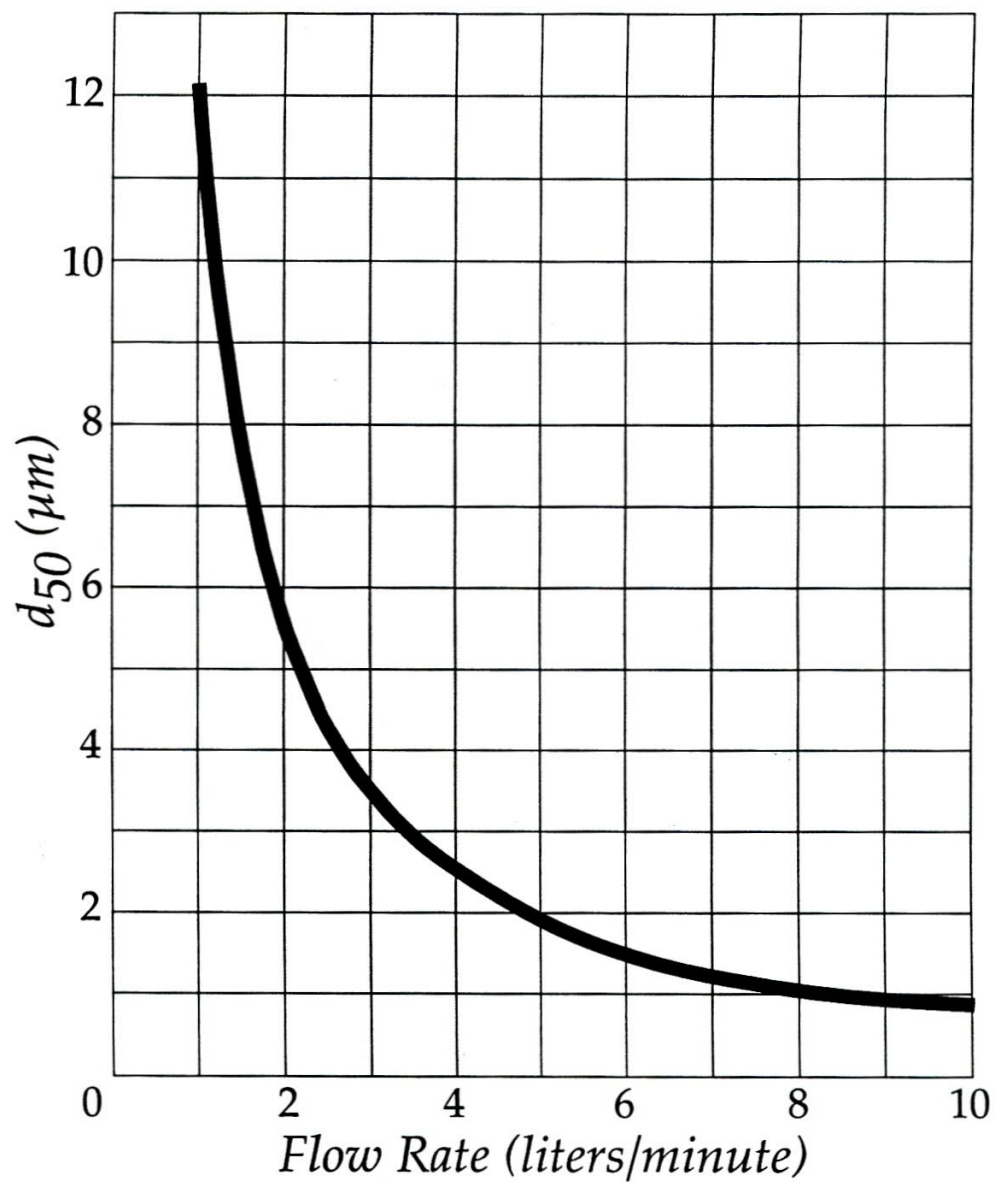

Figure 7. GK 2.05 Cyclone Cut Point (d_{50}) as a Function of Flow Rate
The *p*DR-1200 can be used to monitor a specific particle size fraction below a selectable cut off equivalent aerodynamic diameter. The particle size cut point can be selected by adjustment of the sampling flow rate. The higher the flow rate through the cyclone the smaller the cut off particle diameter. Figure 7 is a graph showing the dependence of the particle cut off size in micrometers as a function of the sampling flow rate in liters per minute. The cut off size is the particle aerodynamic diameter at which the collection efficiency of the cyclone is 50%, or conversely, the size at which the cyclone transmission is 50%. For example, to obtain a particle size cut off of 2.5 μm (i.e., PM_{2.5}), the required sampling flow rate is 4 liters/minute. At that flow rate only particles smaller than (approximately) 2.5 μm are allowed to pass into the *p*DR-1200 sensing stage, to be monitored and then to be collected on the filter.
As can be seen on Fig. 7, the lowest particle size cut for the GK 2.05 cyclone included with the *p*DR-1200 is about 1 μm , and the largest is about 12 μm . For particle size classification outside this range, consult with the factory.
One simple procedure to determine the median particle size is as follows (please refer to the graph of Fig. 7):
- After an elapsed time (ET) of about one minute, read and note TWA concentration
- Enter the final flow rate for which the TWA value is one-half of the initial value into the graph of Fig. 7 and read the corresponding D50 particle size in micrometers. This represents the mass median particle diameter of the aerosol.
For example, if the TWA value without the cyclone was 0.8 mg/m^3 , and the flow rate (with the cyclone attached) required to reduce the TWA to 0.4 mg/m^3 is 2 liters/minute, the mass median particle size (as obtained from the curve of Fig. 7) is approximately $5.5 \text{ }\mu\text{m}$.